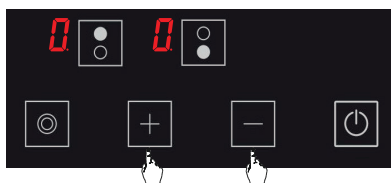

Figure 7
3. Power level of the relevant hob may be set from 1 to 9 using the and the keys or from to 9 as per the option of the stove. (See Fig. 7)